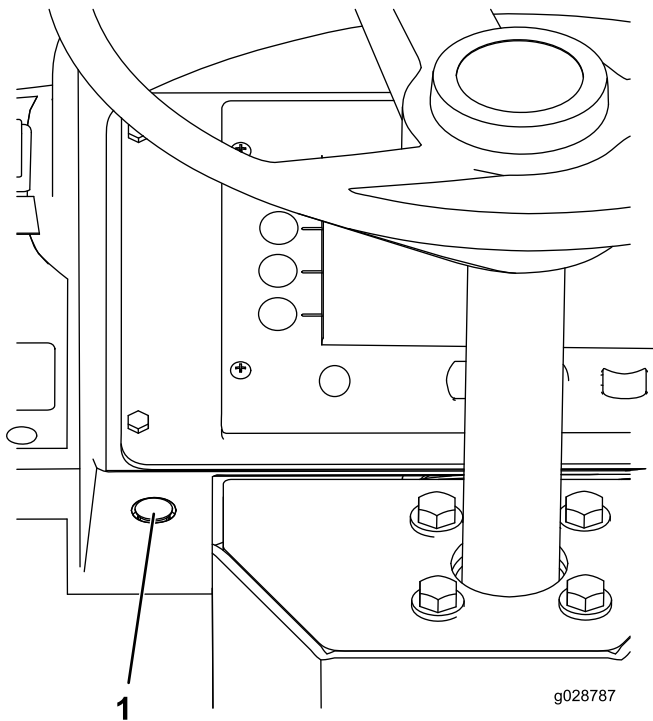

Figure 11
1. On the left side of the steering column, remove the plug shown in Figure 11.